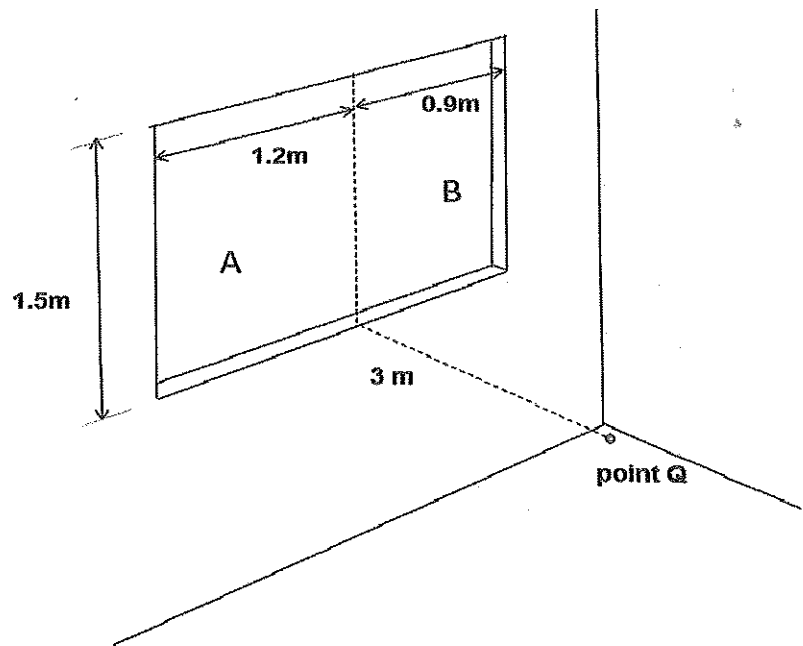

Figure QA1
- (c) **Figure QA1** shows a horizontal window inside a room with the floor area of 6.3 m². The reflection factor of the wall and the floor are 60% and 10% respectively. The room is situated at a clean industrial area involving clean industrial work. By assuming that the Externally Reflection Component for the room is 0.31%, calculate the minimum daylight factor at point Q.